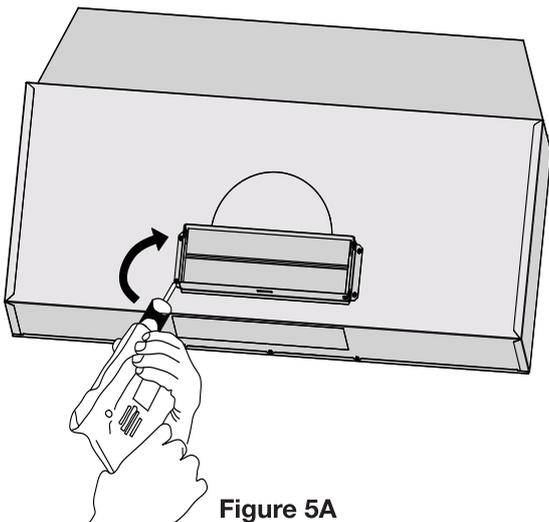

Figure 5A
- Using the supplied ST4*6 screws, attach the rectangular vent/damper on either the top or rear of the range hood (see Figure 5A or 5B).